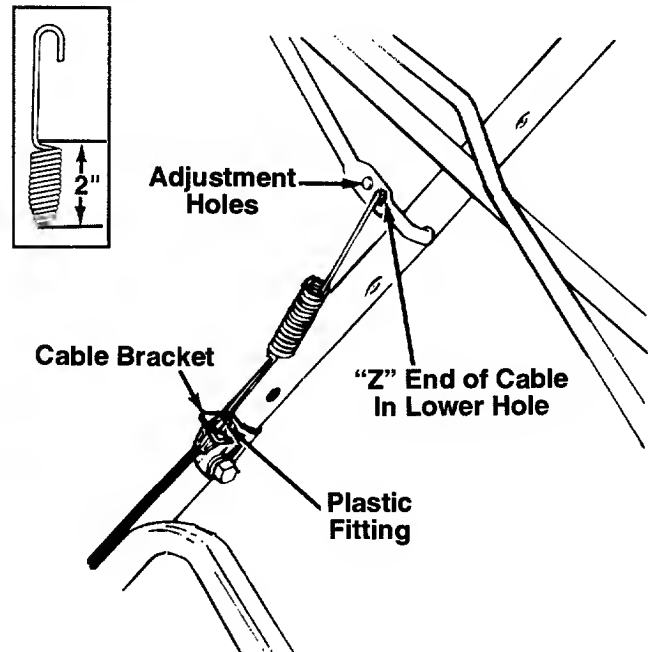

FIGURE 10.
1. Engage the drive clutch control handle (squeeze handle against the upper handle). Measure the spring on the drive clutch cable. It should measure approximately 2 inches long as shown in figure 10, inset.
2. If adjustment is necessary, loosen the screw which secures the cable bracket to the upper handle. Slide the cable bracket up or down as necessary. Check the spring length as instructed in step one. Tighten the screw when correct adjustment is reached. If additional adjustment is needed, hook the cable into the higher hole in the drive clutch control handle. See figure 10. Then readjust the cable at the cable bracket.